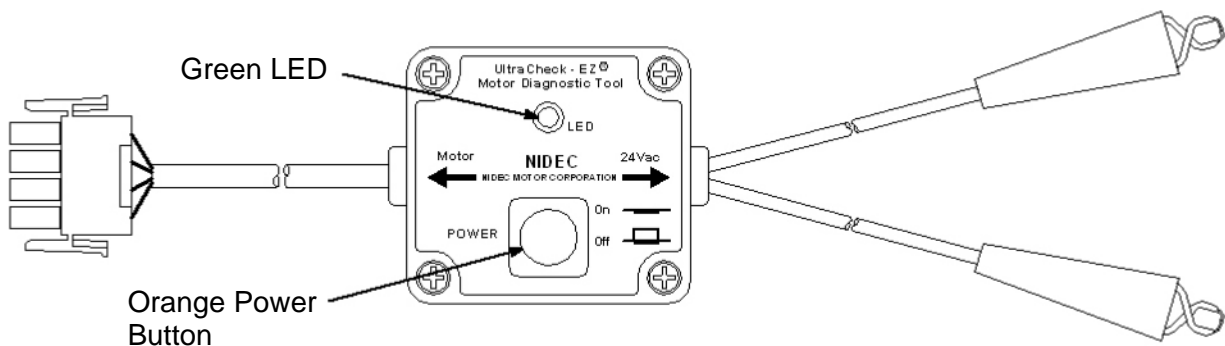

Figure 4
7. Use the table below to determine needed action. Complete steps 8-11 before proceeding to the next check. Press the orange button [Figure 4] on the UltraCheck-EZ® diagnostic tool and wait 5 seconds for the blower to spin.
8. Press the orange button [Figure 4] again to stop the blower and turn off the UltraCheck-EZ® diagnostic tool.